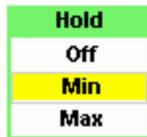

Figure 2-29 Hold pop-up
- 3 Press  to display the **Hold** pop-up, and use the , and  to highlight **Min** or **Max** (see Figure 2-29).